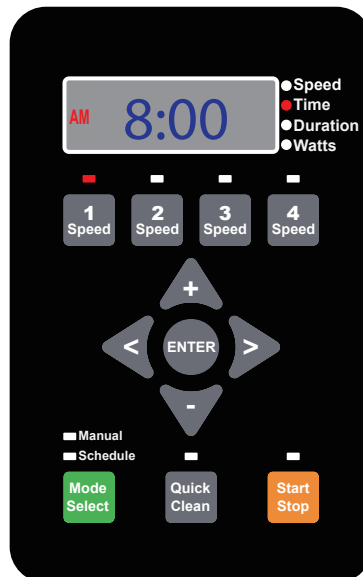

Figure 2 Setting Start Time
4. Press the **"1"** button again and the display will change to SPEED 1 start time. The "Time" parameter LED will begin to blink. See **Figure 2**.